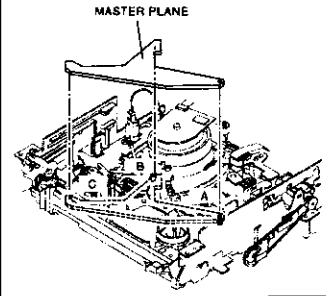
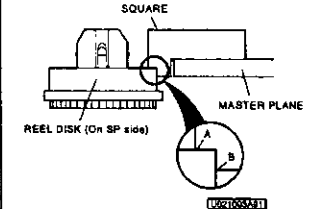
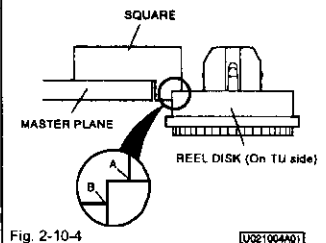

Fig. 2-10-2
Fig. 2-10-3
Fig. 2-10-4
- Place the height adjustment jig [MASTER PLANE] (859C342020) shown in Fig. 2-10-2 in the reference position. (Place the MASTER PLANE so that the points A, B and C of the MAIN PLATE ASSY support it.)
- Place the height adjustment jig [SQUARE] (859C433060) shown in Fig. 2-10-2 on the MASTER PLANE. Move it to the position shown in Fig. 2-10-3 to make sure that A can pass but B cannot pass under the REEL DISK (On SP side).
- Place the height adjustment jig [SQUARE] (859C433060) shown in Fig. 2-10-2 on the MASTER PLANE. Move it to the position shown in Fig. 2-10-4 to make sure that A can pass but B cannot pass under the REEL DISK (On TU side).
- Move the part of the MAIN PLATE ASSY in the opposite direction of arrow (C) as shown in Fig. 2-10-4 so that it points to the centre of the REEL DISK (On TU side).